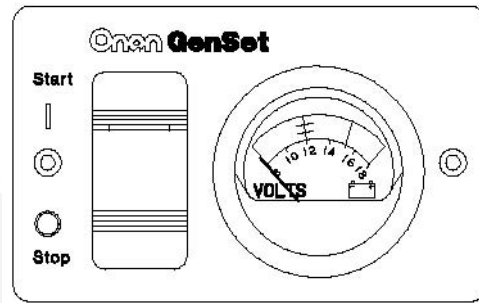

FIGURE 31. REMOTE SWITCH / DC VOLTMETER
- Remote start/stop switch with status indicator light and DC voltmeter (Figure 31).